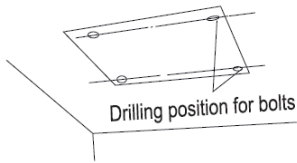

Fig. 4.2
- (1). Using the installation template, drill holes for bolts (four holes). (Fig. 4.2)